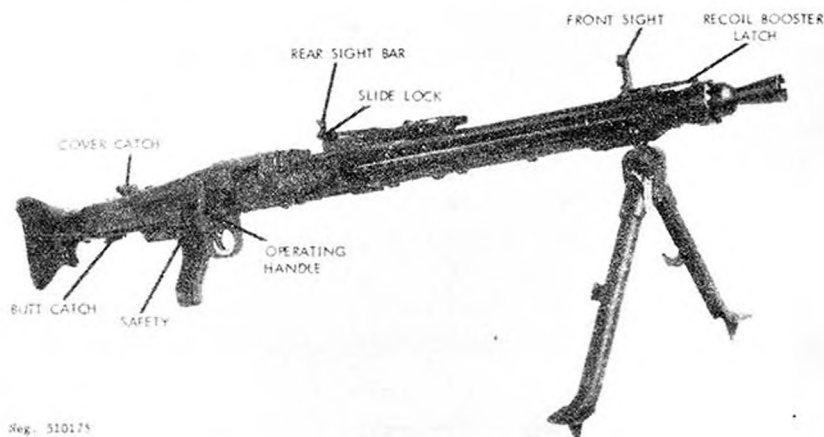

Figure 176. West German MG1 or MG3 machinegun.
b. The Rheinmetall gun is known either by its commercial designation of MG-42/59, or by the West German Military designation of MG-1 (fig 176). There are several variations of the MG-1. The original MG-1, in 7.62x51-mm NATO, was almost identical to the old MG-42; the MG-1A1, chambered for the
b. Grasp the operating handle (fig 176), pull it fully rearward, and then thrust it forward. This cocks the gun's mechanism. Press the safety (fig 176) fully to the left to lock the gun in its safe position.
d. If the feed belt does not have a feed tab, the cover must be opened. Press the cover catch (fig 176) forward and swing the cover up and forward. Place the belt so that the first cartridge rests against the stop (fig 177) in the feed tray and the belt or link is between the stop and inner rear edge of the feed tray. Close the cover. The barrel should be changed after each 150 rounds (three belt sections) of continuous fire. To change barrels, pull the operating handle to the rear. Push forward on the barrel-cover lock (fig 177) until the barrel cover swings out. The rear end of the barrel will be pulled out of the receiver, and it can then be easily removed to the rear. (CAUTION: The barrel may be hot.) Thrust a cool barrel into the jacket as far as it will go and close the barrel cover. Insure that the barrel cover lock is caught, push the operating handle forward, and resume fire.
b. Press the butt catch (fig 176) and rotate the butt while pushing it in against the force of the driving spring. The butt will disengage from the receiver; ease the butt away from the receiver. Pull the driving spring out of the receiver.
e. Lift the recoil-booster latch (fig 176) and unscrew the recoil booster; thoroughly clean it of carbon and firing residue. Remove the barrel (para 160g) and thoroughly clean it. Reinstall the barrel, and screw the recoil booster back onto the front of the receiver.